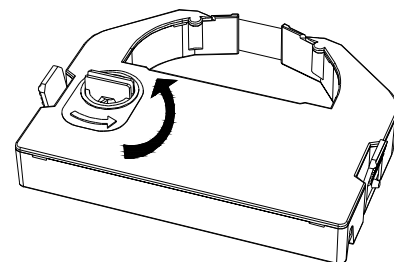

Figure 6
- ◆ Tighten the ribbon according to the arrowhead so that the cartridge can be set easily (Figure 6).